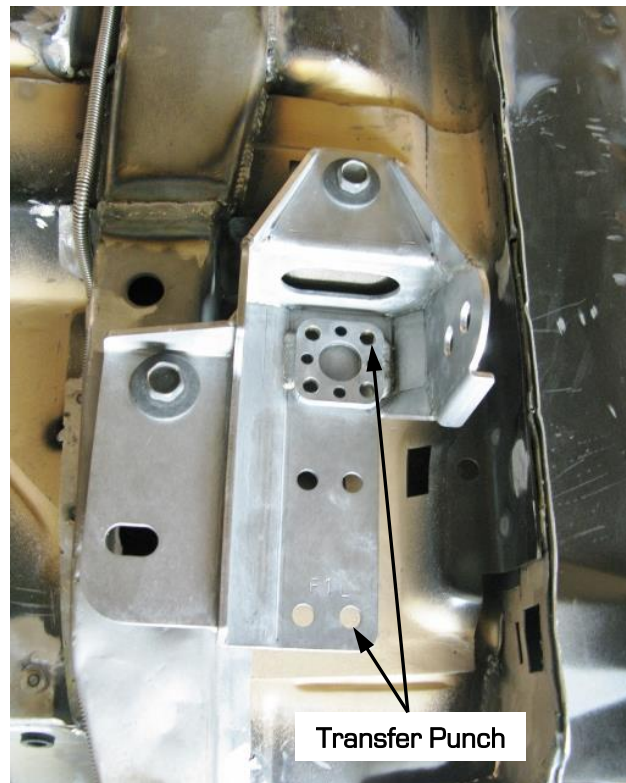

Figure 5 – Transfer Punch 2 Holes
14. With the DSE pockets in the correct location, transfer punch the front and rear outboard holes on the DSE pockets to the floor pan (Figure 5 on the next page).